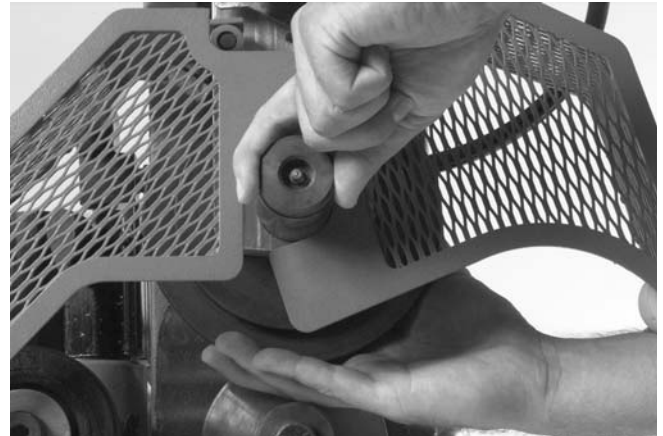

Figure 19 – Removing Upper Roll Shaft
4. Remove the upper roll shaft and upper roll (Figure 19). Be sure the upper groove roll is supported. The groove upper rolls weigh up to 14 pounds and could drop suddenly.